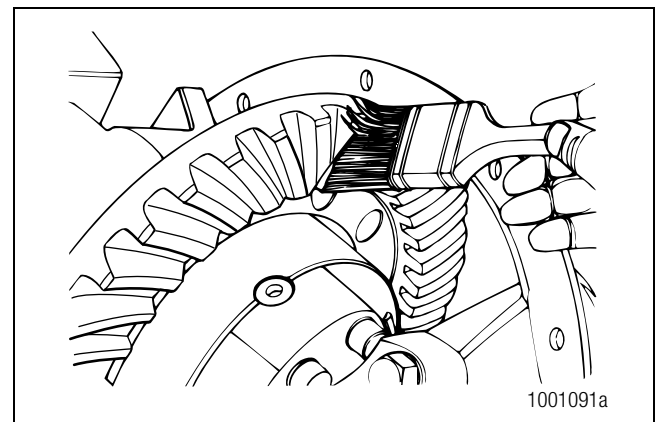

Figure 5.40
- Apply a marking compound to approximately 12 gear teeth of the ring gear. Rotate the ring gear so that the 12 gear teeth are next to the drive pinion. Figure 5.40.